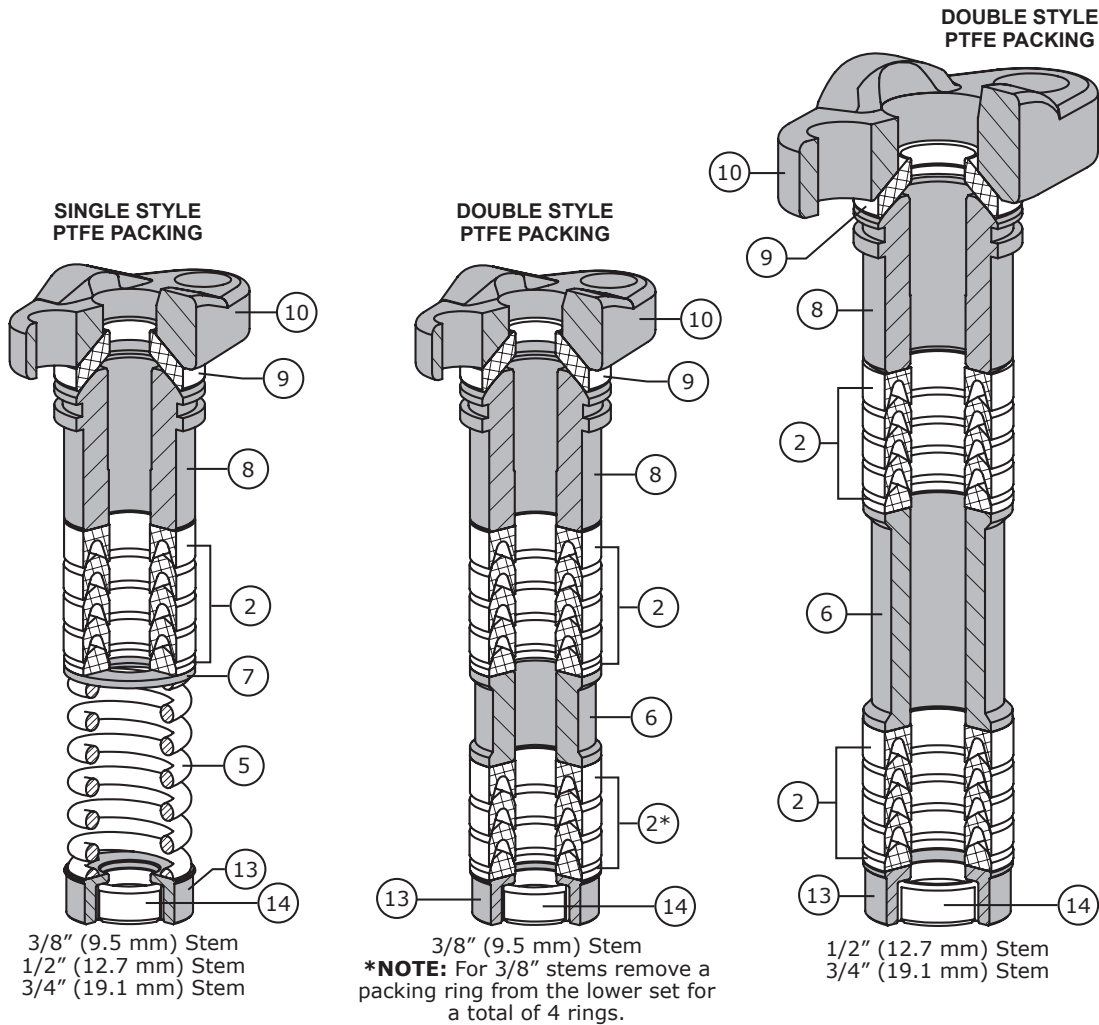

Figure 8 Model 363 Control Valve PTFE Packing Diagrams
Refer to Figure 8 & 9 for packing orientation and Key numbers for the following section.
- A** Refer to Figures 8 & 9 for single and double packing arrangements. Choose proper arrangement based on stem size and single or double configurations. Install bonnet as described in the Assembly section. Install packing box ring and packing arrangement as shown. Note that Key 4 is graphite filament wound material that typically looks like rope. Key 3 is graphite ribbon compressed into rings and not split as the graphite filament ring is. Install packing follower (Key 10) and flange (Key 12) and torque as per Table 2.
- B** Install other packing parts according to the packing styles as seen in Figure 8 & 9. Be sure to lubricate the packing set (Key 2) with silicone based lubricant if set is present in assembly. Refer to **NOTE** on preventing trapped air between packing.
- C** Place the live loaded packing follower (Key 10) on top of the packing followed. Install the spring washers (Key 8) onto the packing follower (Key 10) orientated as shown in Figure 8. Slide the packing o-ring (Key 9) onto the packing follower so that it rests on the top spring washer.